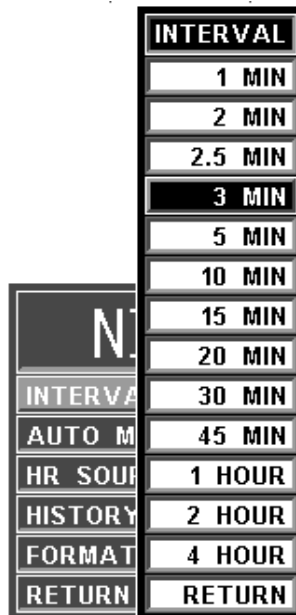

Figure 4-11. The NIBP INTERVAL Menu
- a. **INTERVAL.** Selecting this menu option allows the operator to change the automatic-measurement time interval setting (See **Figure 4-11**). The active options contained in this menu are 1, 2, 3 (default), 5, 10, 15, 20, 30 or 45 minutes, and 1 hour; this menu also contains three (3) inactive options: 2.5 minutes, 2 hours and 4 hours, selecting any of these options will cause the monitor to display a message indicating that these selections are inactive. The **INTERVAL** Menu is also accessed by pressing the **NIBP INTERVAL** key. If operating a dual monitor system, with a 3155A and 3155MVS communicating with the 3150(M), the adjustments made here are interactive between the two 3155 monitors to ensure that the monitored parameters remain consistent between all components of the MRI monitoring system.
- (1) There is a 20-second period in between the measurements to allow for peripheral perfusion.
- (2) As the Rotary Knob turns clockwise, the interval will increase. After reaching “RETURN,” the interval will “roll over” to “1 MIN” and continue to increase.
- (3) As the Rotary Knob turns counter-clockwise, the interval will decrease. After reaching “1 MIN,” the interval will “roll over” to “RETURN” and continue to decrease.